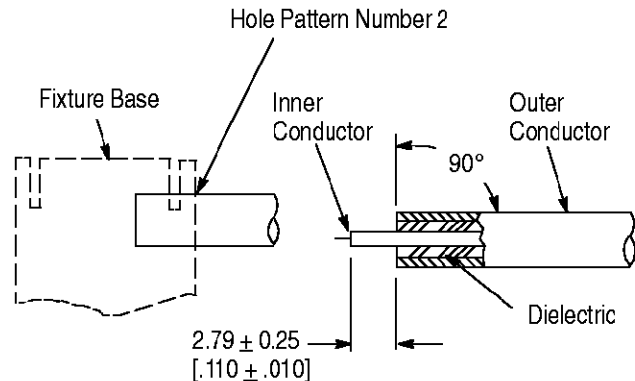

Figure 3
5. Trim the inner conductor to the dimension shown in Figure 3.
2.1. Preparing Cable (Figure 3)